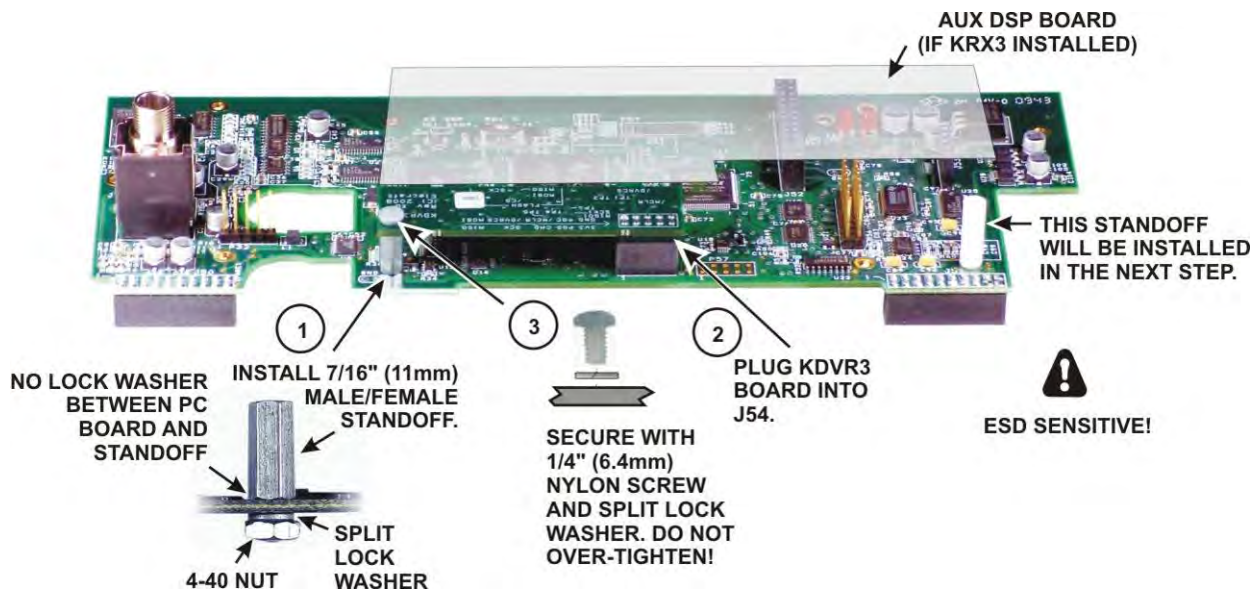

Figure 26. Installing the KDVR3 Board.
□ If you have the KDVR3, install it on the main DSP board as shown in Figure 26. The required hardware is included in your KDVR3 kit. If you did not purchase the KDVR3, skip this step and continue with *Mounting the DSP Board Assembly on the Front Panel* on page 26.
Locate the main DSP board and install the nylon standoff near J51 as shown below. Be sure you place it in the correct hole near the edge of the board. The standoff is also shown in Figure 26.